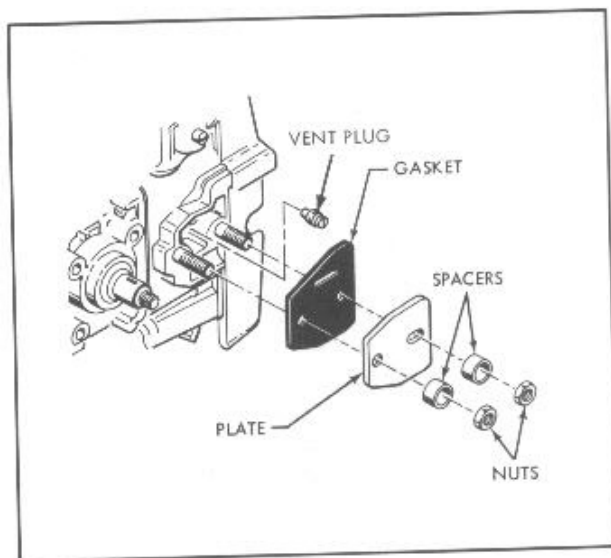

Figure 4. Install Cover Plate
2. Clean all dirt off the bar mounting surface of the bar mounting pad. Remove the fuel vent orifice assembly from the bar mounting pad and install the fuel tank vent plug in its place (figure 4). Put the cover plate gasket, cover plate and spacers from the kit on the bar mounting studs. Put the bar mounting nuts on the studs and tighten the nuts securely. Do not overtighten the nuts for you can cut the rubber cover plate gasket apart by putting too much pressure on it. Just make sure that the nuts are tight enough to prevent any leakage around the gasket. The gasket seals off the chain oiler passage.